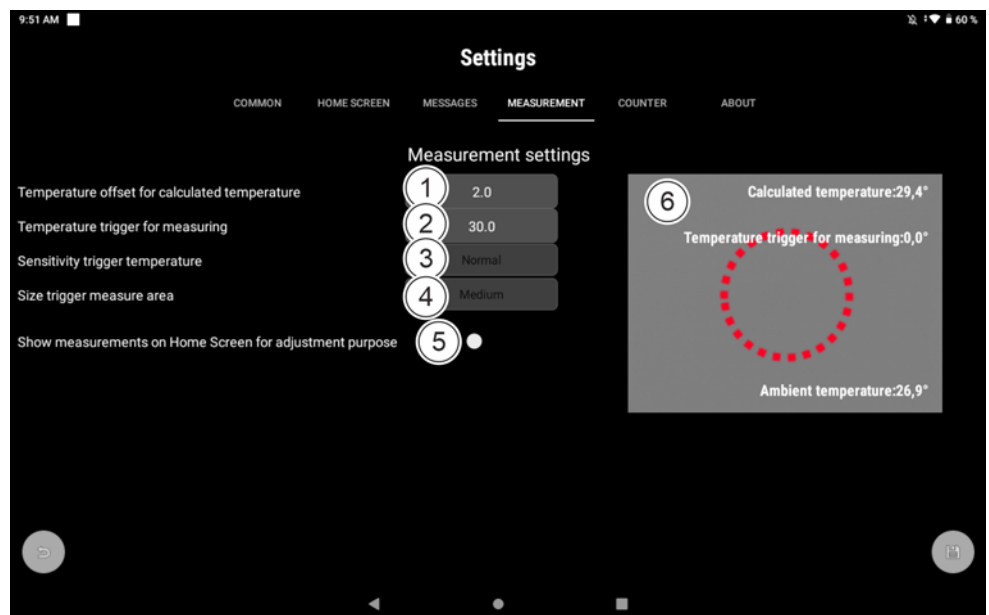

Fig. 5-1: "Measurement" screen
- ▶ 4. Read the displayed value "Calculated temperature including correction value" in the displayed camera window Fig. 5-1 - (6) and note the displayed value [Temperature B].
- ▶ 6. Add the difference to the old correction value "Correction value for calculated temperature" *Fig. 5-1 - (1)* and overwrite with the new correction value.